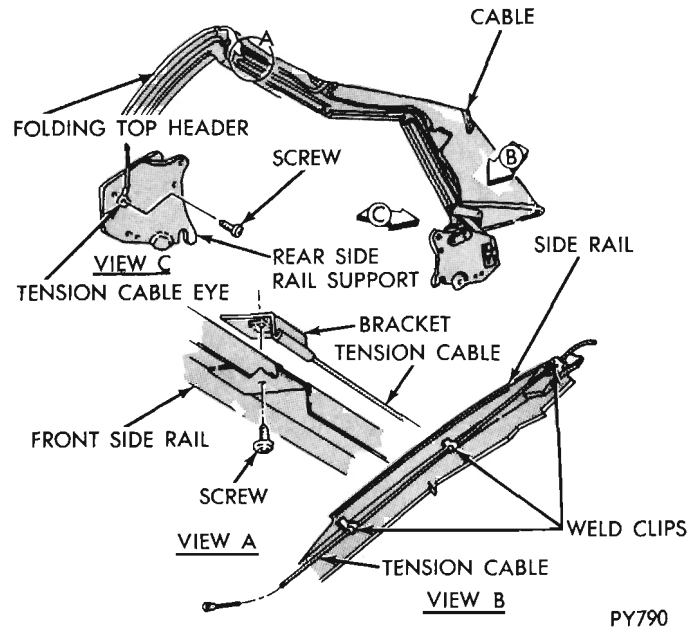

Fig. 7 Side Tension Cable
SIDE TENSION CABLE (Fig. 7)
(10) Remove sealing tape, staples, drive nails and tacks at the top header.
(11) Mark location of top material bead on ends of cover pads and loosen seals at corners.
(12) Remove front screws from front roof rail weatherstrip retainers and remove locking flaps from between retainer and roof rail.
(13) Remove cover cables at front roof rail weatherstrip retainers and at rear pillars (Figs. 7 and 15) if original cover is to be reinstalled tie a cord to one end of cables prior to removing. When cables are removed cord should be left in listing.
(14) Remove cover from the folding linkage.
(15) Remove rear curtain assembly.